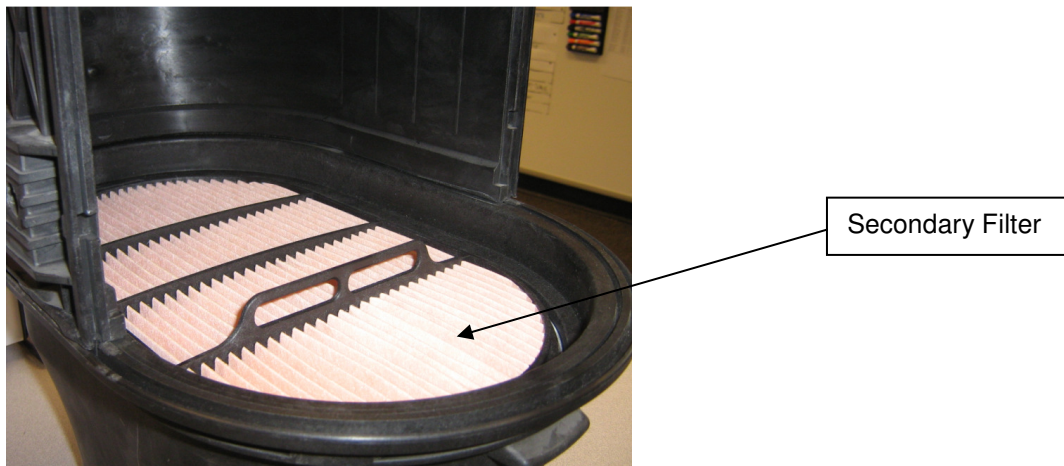

Figure 10: Secondary Filter Installation
18. Install the secondary element into the air filter housing with the handle facing up and towards you. Insert the secondary element tab into positioning slot at rear of the housing before pushing the element down into place. Note the handle must be towards the service cover opening and completely seated to properly install the primary element. See Figure 10.